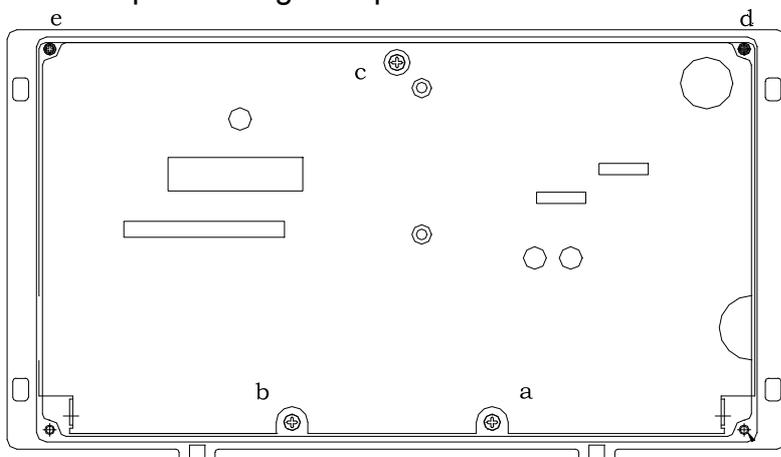

Fig.5 Top Panel and Screw Locations
1. Loosen the 3 captive screws securing the motherboard chassis at points a, b, & c (see fig. 5)
2. Remove the 2 front panel screws at points d & e (see fig. 5). Open the hinged front panel covering the motherboard. Unplug the 6-wire power supply harness at connector J2. Carefully lift the receiver chassis out of the receiver body using the attached handles. Don't pull or drag the optical fiber.
4. Position the receiver chassis into the receiver housing, using the guide slots near the hinges to position the chassis. Be careful not to pinch or kink the fiber optic cable. Tighten the 3 screws at points a, b, & c (see fig.5).
1. Verify that the receiver chassis is securely fastened to the receiver housing with the (3) captive screws (see fig. 5).
2. Verify that the top panel is fastened shut with (2) screws (see fig. 5).
5. Make sure that the (4) waterproof connectors and/or and plugs are tightly installed at all 4 ports A, B, C, & D.
6. Completely tighten the (6) captive screws attaching the upper and lower halves of the weatherproof receiver housing.